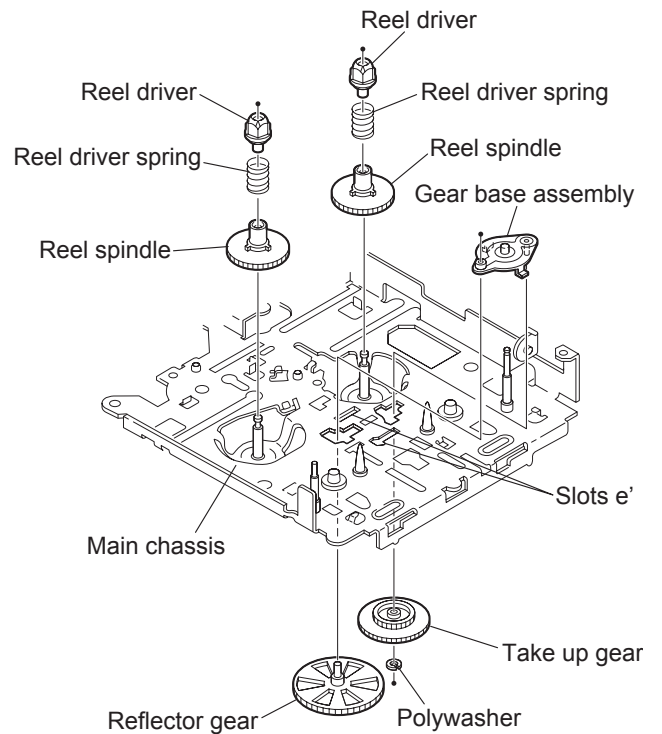

Fig.32
**(See Fig.32)**
- (1) Draw out the reel driver from the shaft on the main chassis and remove the reel driver spring and the reel spindle respectively.